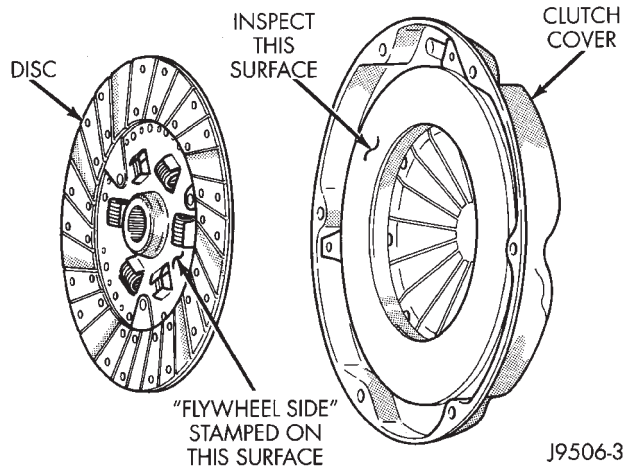

Fig. 2 Clutch Disc And Pressure Plate Inspection
(1) Remove transmission. Refer to procedures in Group 21.
(2) If original clutch cover will be reinstalled, mark position of cover on flywheel for assembly reference. Use paint or a scribe for this purpose.
(3) If clutch cover is to be replaced, cover bolts can be removed in any sequence. However, if original cover will be reinstalled, loosen cover bolts evenly and in rotation to relieve spring tension equally. This is necessary to avoid warping cover.
(4) Remove cover bolts and remove cover and disc (Fig. 2).
(4) Position clutch disc on flywheel. Be sure side of disc marked flywheel side is positioned against flywheel (Fig. 2). If disc is not marked, be sure flat side of disc hub is toward flywheel.
(5) Inspect condition of pressure plate surface of clutch cover (Fig. 2). Replace cover if this surface is worn, heat checked, cracked, or scored.
(7) Insert alignment tool in pilot bearing and position disc on flywheel. Be sure disc hub is positioned correctly. Side of hub marked Flywheel Side should face flywheel (Fig. 2). If disc is not marked, place flat side of disc against flywheel.